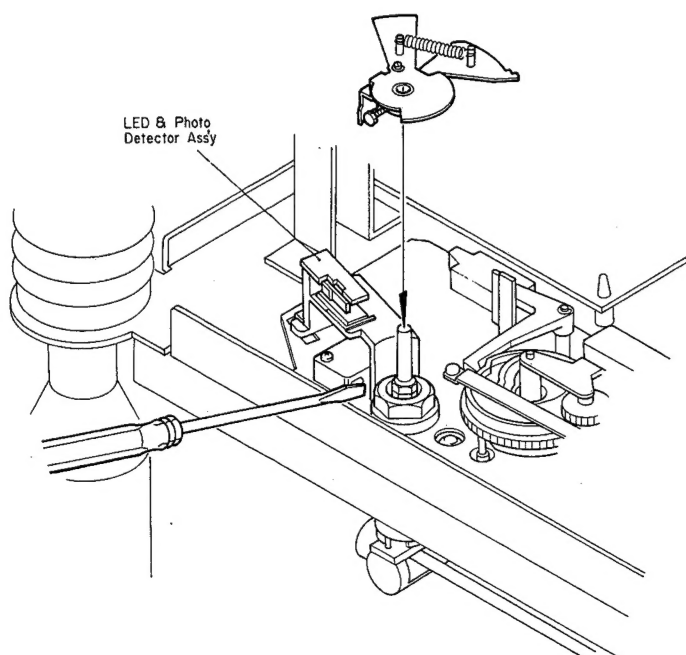

Fig. 4.4
- (2) Insert F04 into the shaft without contacting with the LED & Photo Detector Ass'y. Refer to Fig. 4.4.
- (3) While pushing the protrusion of the microswitch with a screwdriver, insert F04 until it stops. Refer to Figs. 4.4